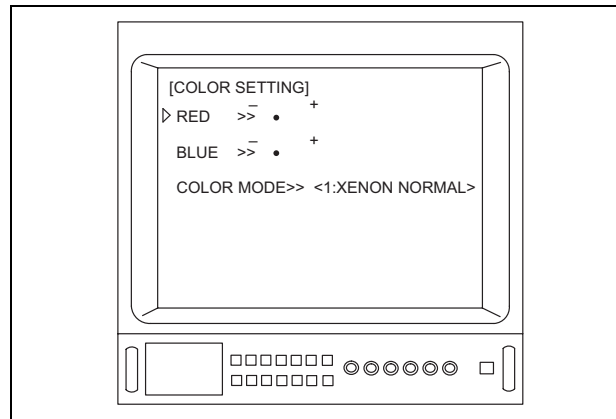

Figure 5.22
6. Depress the menu switches “◀” or “▶”, or the “↑/↓/←/→” key on the keyboard to move the arrow “▷” to the color that you would like to adjust (for example, “RED” shown in Figure 5.22).